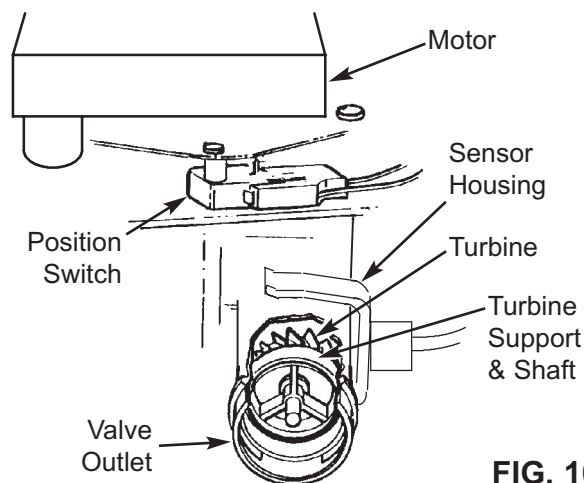

FIG. 101
6. If the display reading does not change with the faucet open, pull the wire harness from the valve outlet port (See Figure 101).